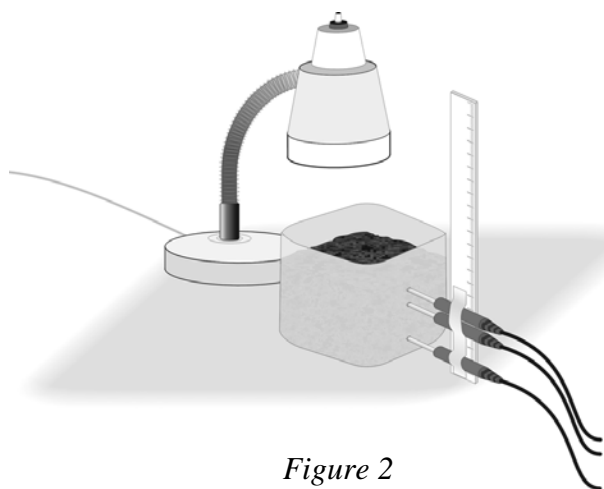

Figure 2
4. The Temperature Probes must be parallel to the tabletop during data collection. Secure them in this position by taping them to a ruler, as shown in Figure 2.